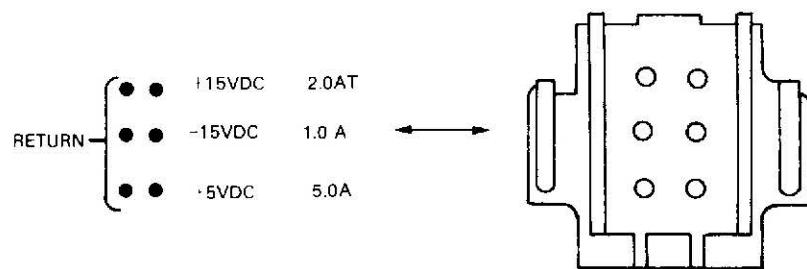

Figure 4-1. Rear Panel Power Connections
- Connect power supply to the 1345A and turn on power. (See figure 4-1 for power connections.)